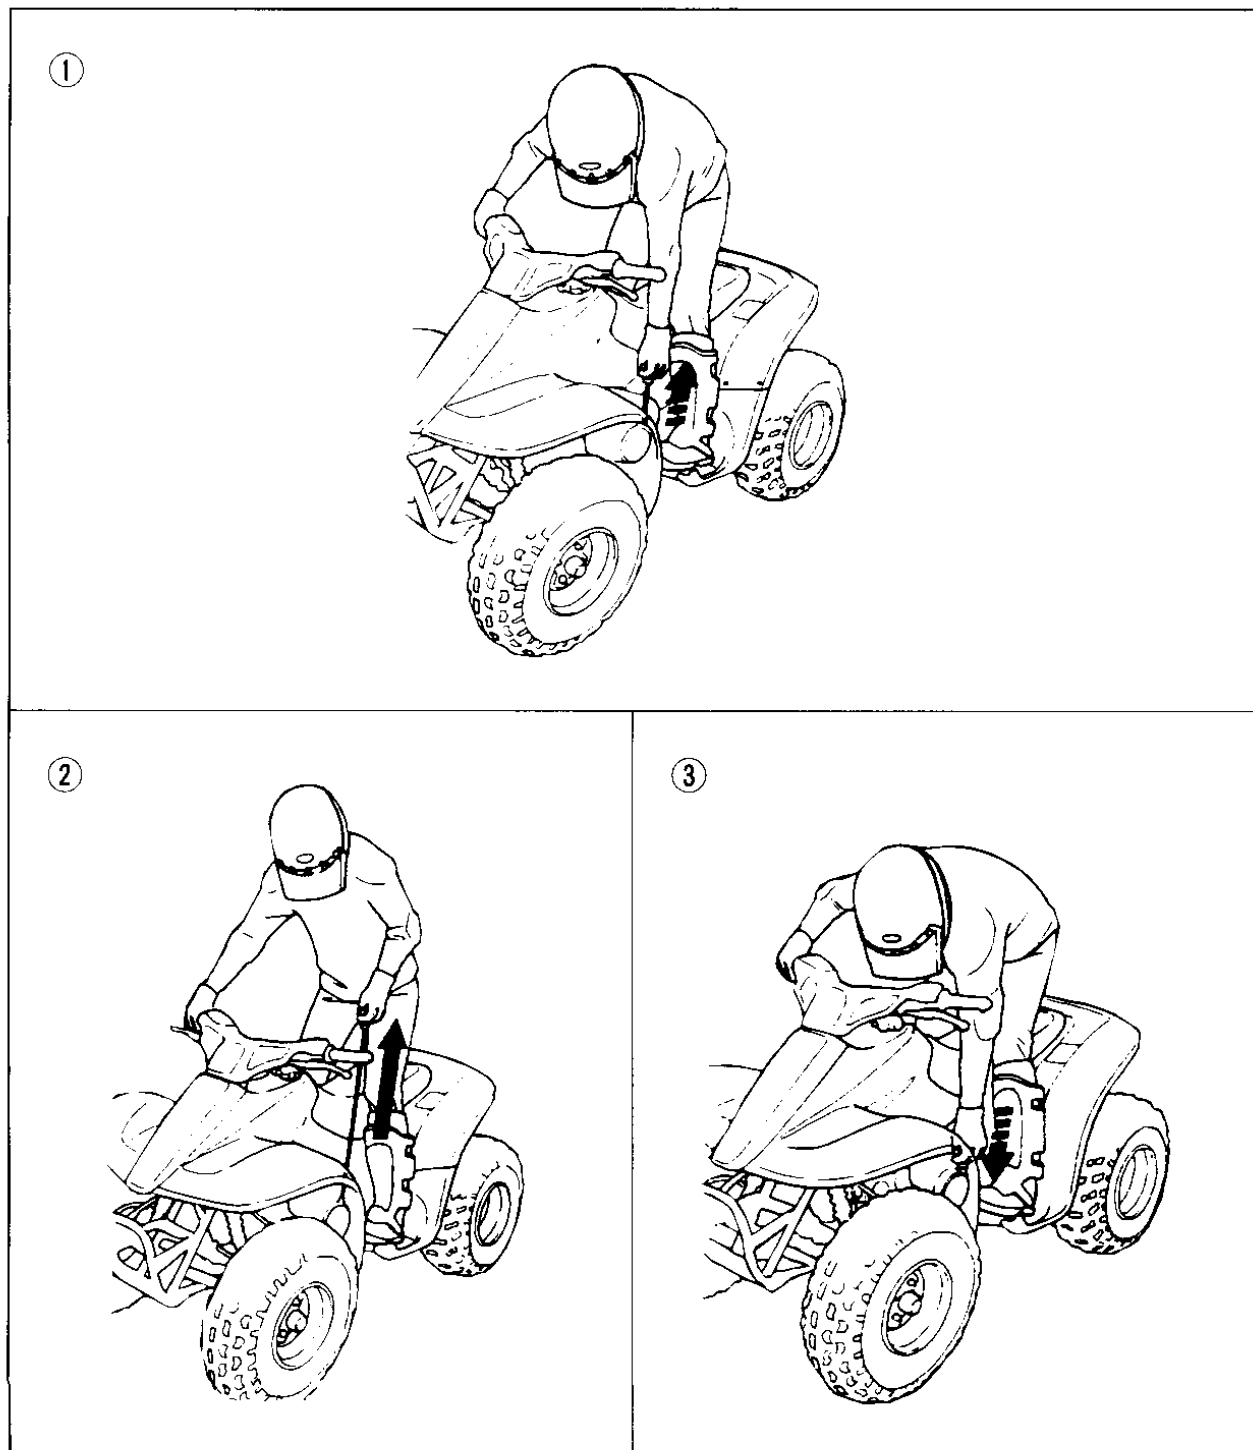

Fig. 3-12
3. Grasp the starter grip and slowly pull it out about four inches (100 mm). Then pull the starter grip briskly to start the engine (Fig. 3-12).